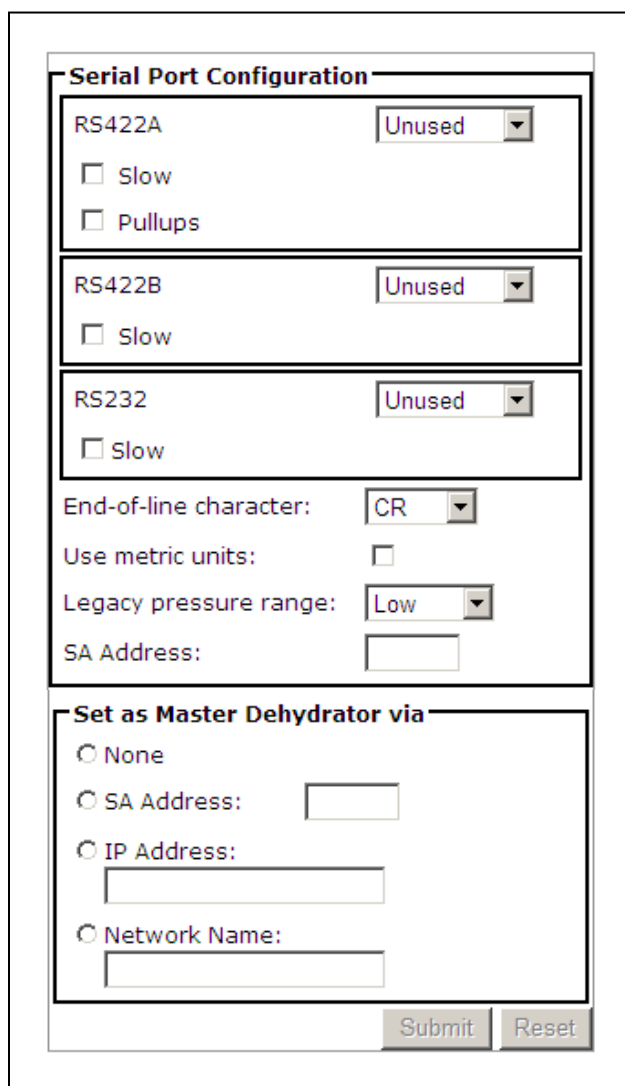

Figure 24. THE MASTER DEHYDRATOR SCREEN.
1. Locate the section of the set-up screens called “Set as Master Dehydrator via” among the screens on the Configuration page. Refer to Figure 24.